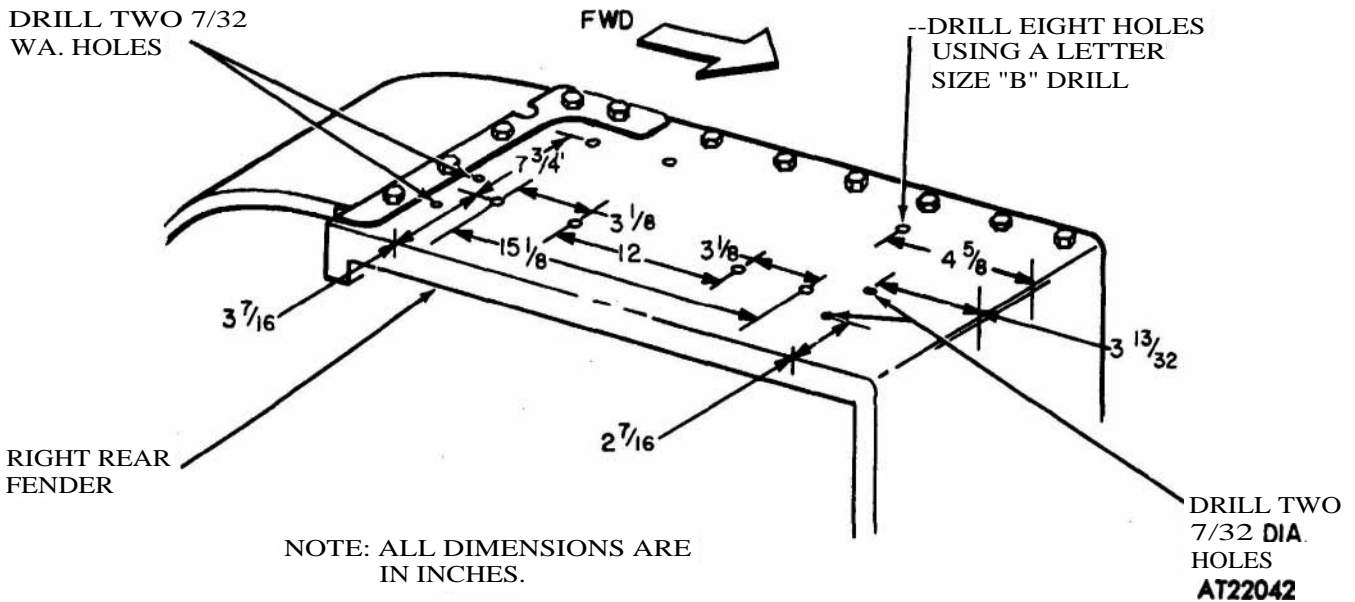

Figure 3-29. Right rear fender drilling pattern.
(1) Layout and mark right rear fender for hole location as shown in figure 3-29.
(2) Drill four holes 7 / 32 of an inch and eight holes, using a size B drill, as shown in figure 3-29.